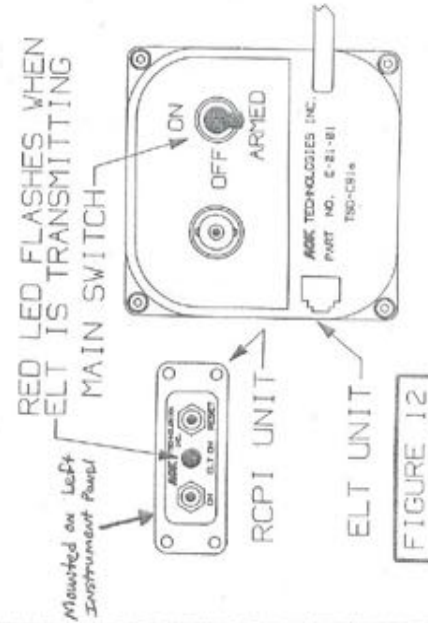

FIGURE 12
2. PRESS THE "ON" BUTTON ON THE RCPI UNIT (SEE FIGURE 12). VERIFY THAT THE RED LED FLASHES. VERIFY THAT THE AUDIO SWEEP TONE CAN BE HEARD ON THE COM RECEIVER. PUSH THE "RESET" BUTTON ON THE RCPI UNIT. THE LED SHOULD STOP FLASHING AND THE AUDIO SWEEP TONE SHOULD STOP.
THE RED LED ON THE RCPI WILL FLASH ON AND OFF INDICATING THE ELT IS TRANSMITTING. THE ELT SHOULD BE ACCIDENTALLY ACTIVATED BY TURBULENCE, HARD LANDING, OR COLLISION UNDER ANY CONDITIONS OTHER THAN AN ACCIDENT. IMMEDIATE ASSISTANCE. THE ELT SHOULD BE RESET BY PRESSING THE "RESET" BUTTON ON THE RCPI UNIT. (SEE FIGURE 12) IF THE AIRCRAFT IS ON THE GROUND AND THE "RESET" BUTTON DOES NOT CAUSE THE LED TO STOP FLASHING THE MAIN SWITCH ON THE ELT UNIT SHOULD BE SET TO THE OFF POSITION (SEE FIGURE 12). IF AIRBORNE AND THE "RESET" BUTTON DOES NOT CAUSE THE LED TO STOP FLASHING, THE MAIN SWITCH ON THE ELT SHOULD BE SET TO THE OFF POSITION IF THE ELT IS ACCESSIBLE. IF THE ELT IS NOT ACCESSIBLE IN FLIGHT YOU SHOULD LAND AT THE NEAREST SUITABLE AIRPORT AND SET THE MAIN SWITCH TO THE OFF POSITION. IN EITHER CASE THE UNIT SHOULD BE INSPECTED BY A QUALIFIED FACILITY AS SOON AS POSSIBLE. THE AIRCRAFT MAY BE OPERATED WITH THE ELT REMOVED FOR INSPECTION OR REPAIR SUBJECT TO THE CONDITIONS OF FAR 91.52.